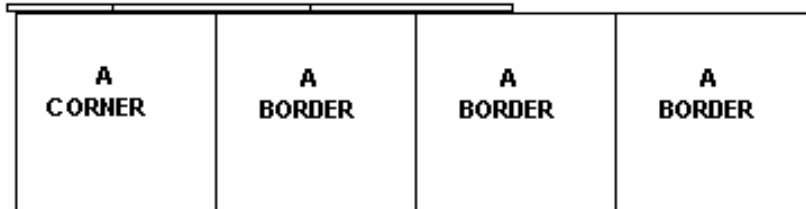

Figure 8
- Next lock another "A BORDER TOP" to Left side of "A BORDER TOP" (Figure 8)